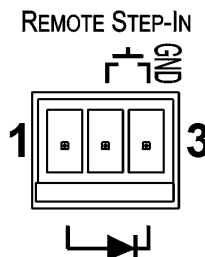

Figure 4: REMOTE STEP-IN Switch and LED Wiring
Figure 4 illustrates the connections from the terminal block to the switch and LED.
**To connect a remote step-in switch and LED as illustrated in the example in Figure 4:**